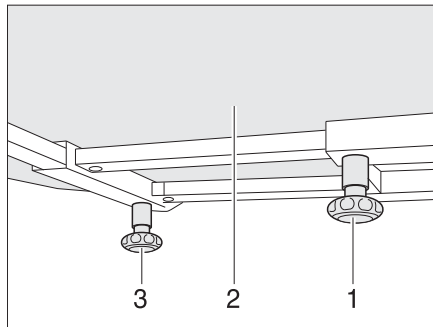

Fig. 94 Fixed table
- Loosen knurled screw (Fig. 94,1).
- Move table-top (Fig. 94,2) to the desired position.
- Loosen knurled screw (Fig. 94,3).